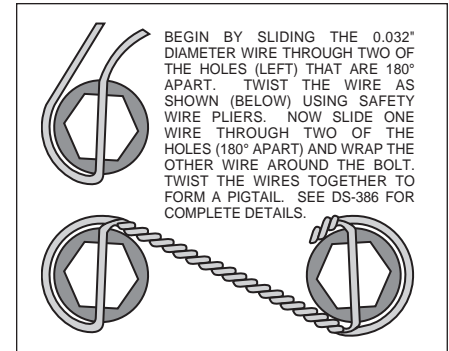

Figure 4. Safety Wire Diagram
•With the larger I.D. side of the rotor (5) facing away from the hat (6), bolt rotor (5) to hat (6) through the backside of the rotor using washers (7) and bolts (8). Torque bolts (8) in an alternating sequence to 120-144 **in-lb**. Safety wire bolts (8) using standard 0.032 inch diameter stainless steel safety wire as shown in Figure 4. Please refer to Wilwood's data sheet DS-386 (available at www.wilwood.com/pdf/ds386.pdf) for complete safety wire installation instructions. Slide the rotor/hat assembly onto the spindle. Install a couple of lug nuts (finger tighten) to keep the rotor/hat assembly in place while continuing with the installation.